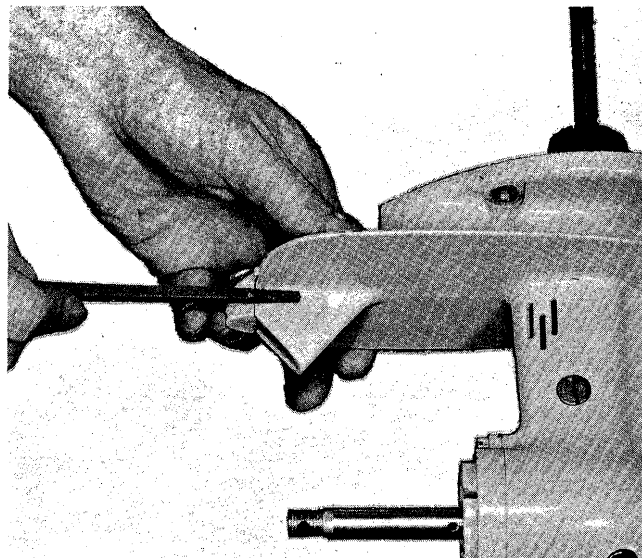

Figure 7
1. File attaching rivet head flush with casting (Figure 7).